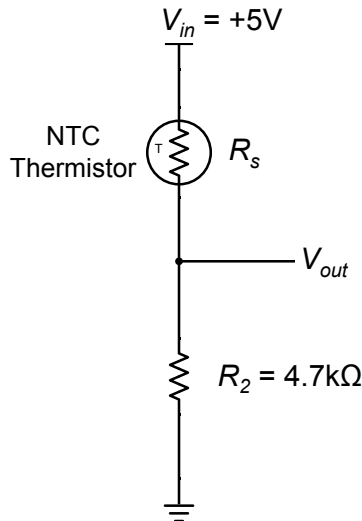

Figure 4 – A thermistor is wired up in a voltage divider circuit.
5. Construct the thermistor voltage divider circuit shown in Fig. 4 somewhere near the center of the breadboard. Test the circuit by measuring V_{out} relative to ground. The voltage V_{out} should increase when you warm up the thermistor in your hand.